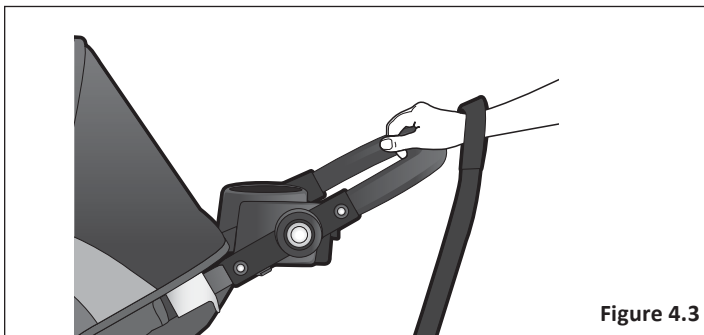

Figure 4.3
- 1 Place your hand through the large loop in a position so the strap is comfortable and secure. **Figure 4.3**